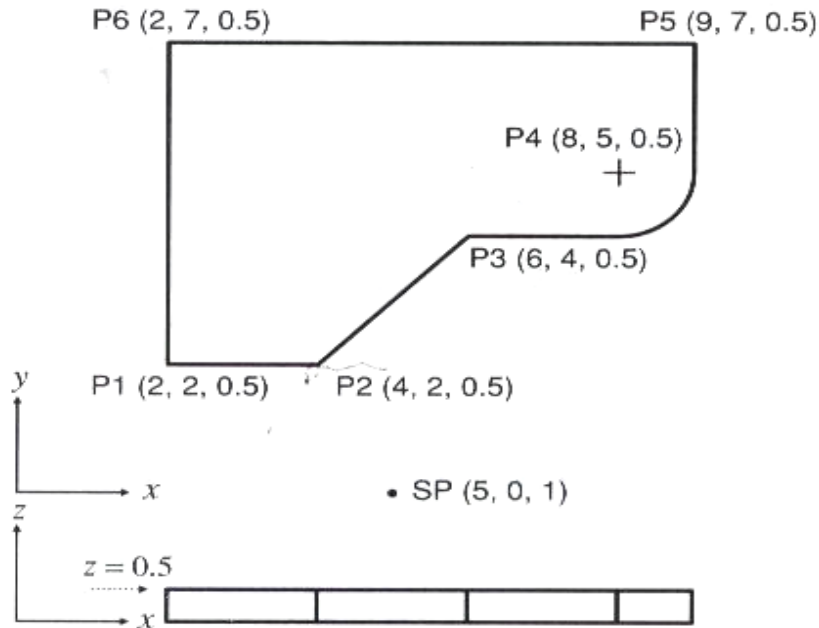

Figure QU6
- (b) Write an APT Language programme for milling the part shown in Figure QU6. [17]